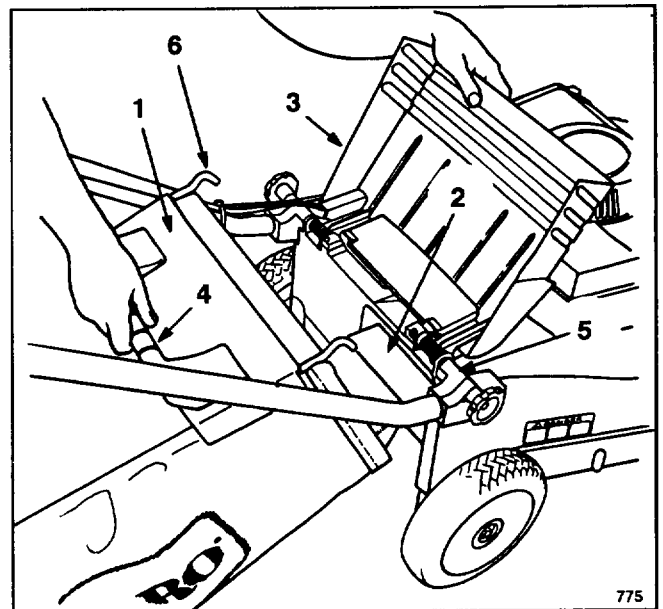
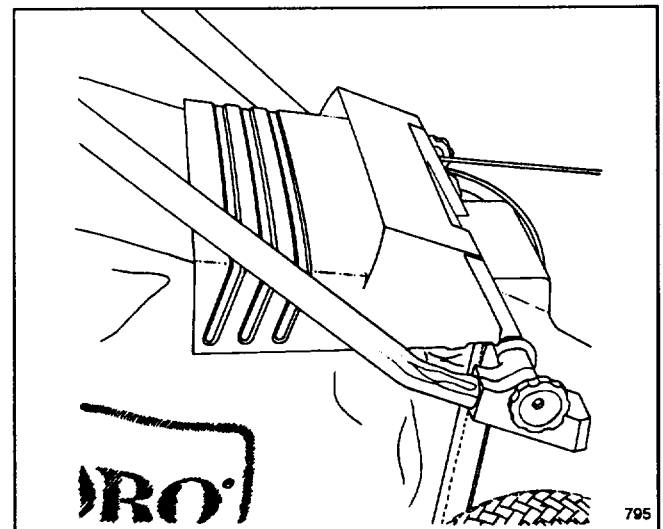

Figure 12
Figure 13
2. **INSTALLING BAG**—Raise discharge door, slide bag ramp attached to bag into discharge opening, and hook bag frame onto mounting bracket (Fig. 12). Allow discharge door to rest on top of bag (Fig. 13).